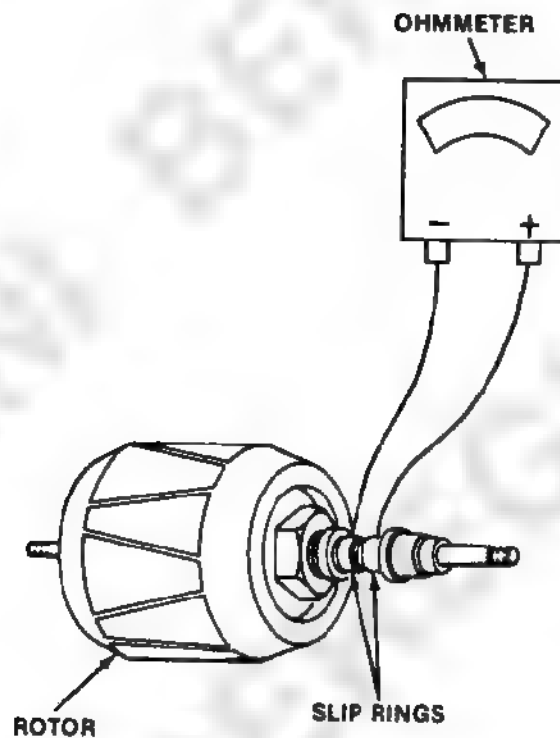

Figure 2-12. Rotor Resistance Test.
- Step 15. Check resistance of rotor field circuit according to figure 2-12.